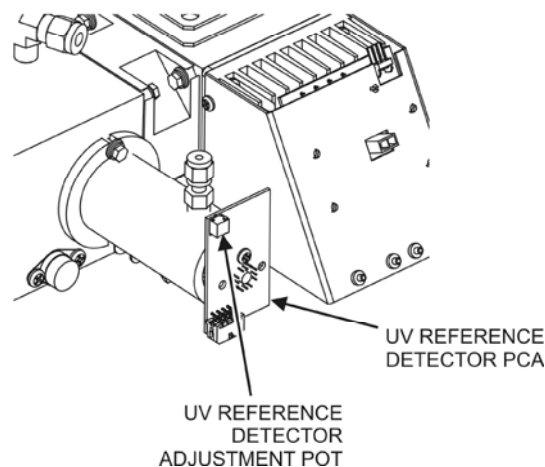

Figure 9-5. Location of UV Reference Detector Potentiometer
2. Slightly loosen the large brass thumbscrew located on the shutter housing (refer to Figure 9-5) so that the lamp can be moved.